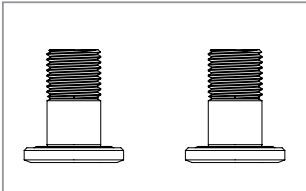

Figure 2 - 3738 Kit
- 3738 Trunnion Bolt Kit (Fig. 2)